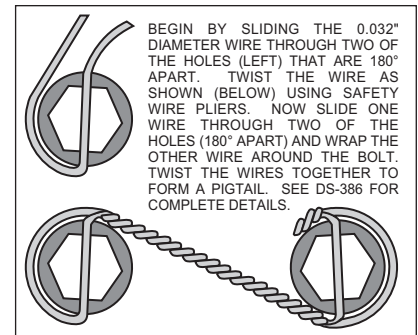

Figure 3. Safety Wire Diagram
- Assemble the rotor (3) to the hat (4) with the bolts (6) and washers (5) as indicated in the configuration pictured in Figure 1. Be sure all bolts thread in smoothly and are snug. Then, torque all bolts in an alternating sequence to 85 **in-lbs**. The rotor mounting bolts (6) must be lockwired using standard 0.032 inch diameter stainless steel safety wire as shown in Figure 3. Please refer to Wilwood's data sheet DS-386 (available at www.wilwood.org/ds386.pdf) for complete safety wire installation instructions.